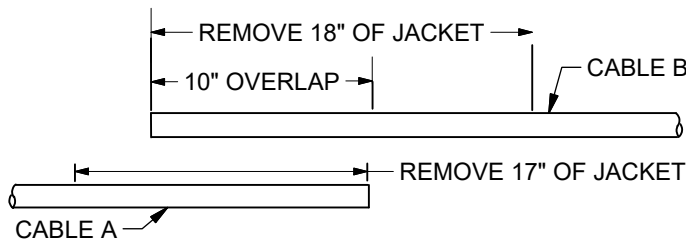

Figure 1
1. There must be an 10" overlap of the cables. Figure 1. Wipe clean 24" on each side.